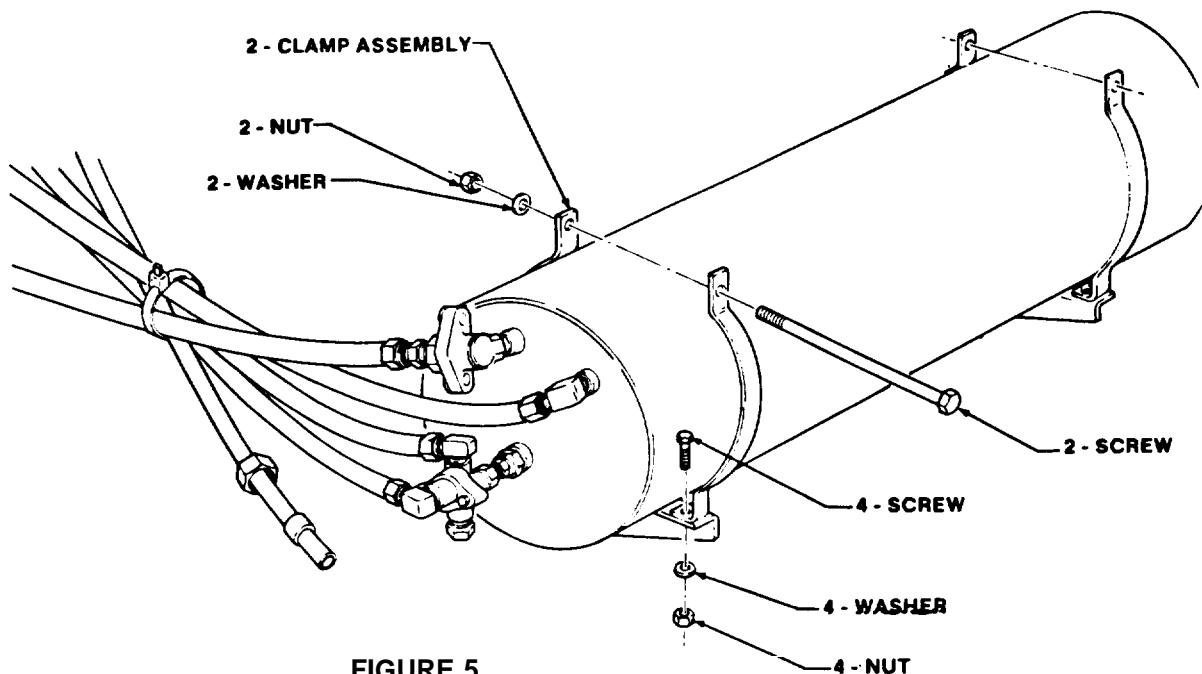

FIGURE 5
(9) Remove two nuts, washers, and screws from two clamp assemblies as shown in figure 5.
(10) Remove four nuts, washers, and screws from two clamp assemblies and remove clamp assemblies as shown in figure 5.